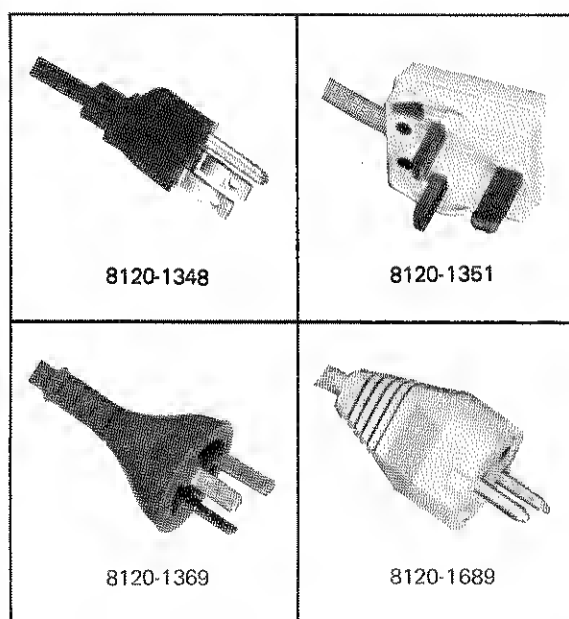

Figure 2-1. Power Cable Line Connector Labels
*See paragraph 2-15 and Figure 2-1.
2-15. Power cables are selected for shipment with each instrument; with a line connector plug to match the standard power cord for the country of destination on the purchase order. A label indicating the power cable inside is affixed to the packing case. Figure 2-1 indicates the connector plugs and the HP part numbers for the various available power cables and plugs.